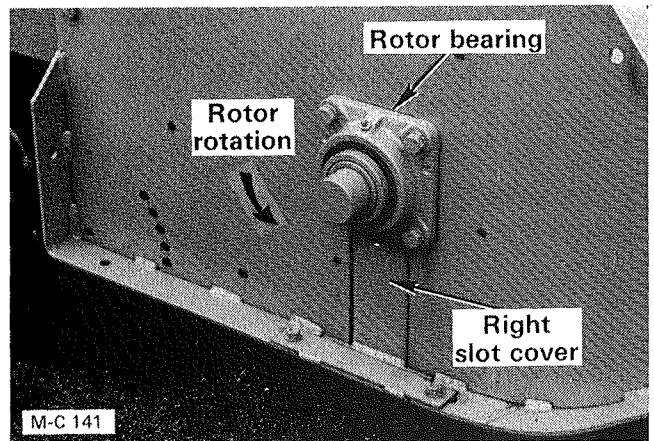

Figure 18
- A. Remove the right slot cover, see Figure 18.